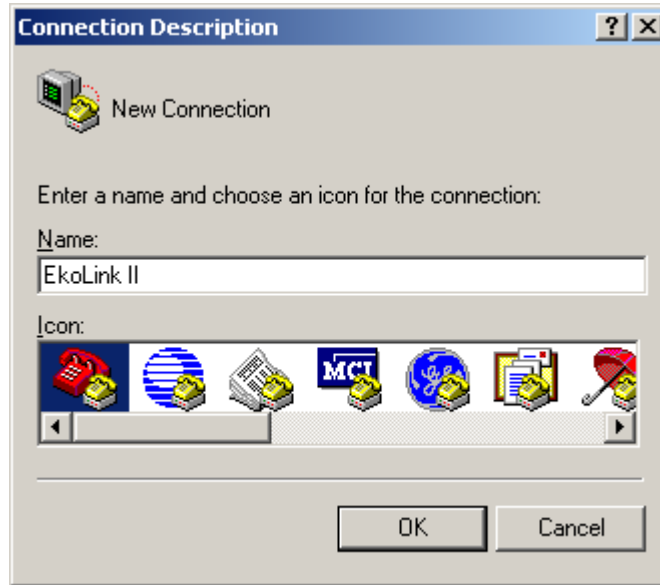

Figure A-1. Connection Description in HyperTerminal
3. A dialog box will ask you to name the session. Use any name you choose. For this example, the name EkoLink II was used. Select the icon showing the two telephones as shown in Figure A-1.